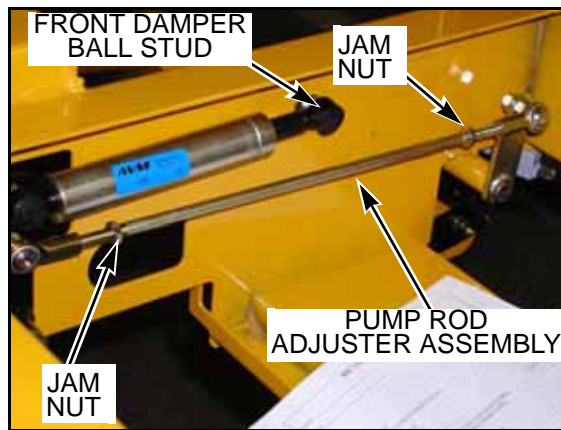

FIG. 24
Fine adjustment to the unit's steering is made with the adjustable pump linkage rods (FIG. 24).
3. Loosen the front dampener ball stud nut as shown in FIG. 24. The dampener will be adjusted and tightened after neutral is reset.
5. Shut off the machine. Loosen the jam nuts on each end of the pump control rod as shown in FIG. 24.
2. If you have not already done so, loosen the front ball stud that is attached to the forward dampener socket, FIG. 24.